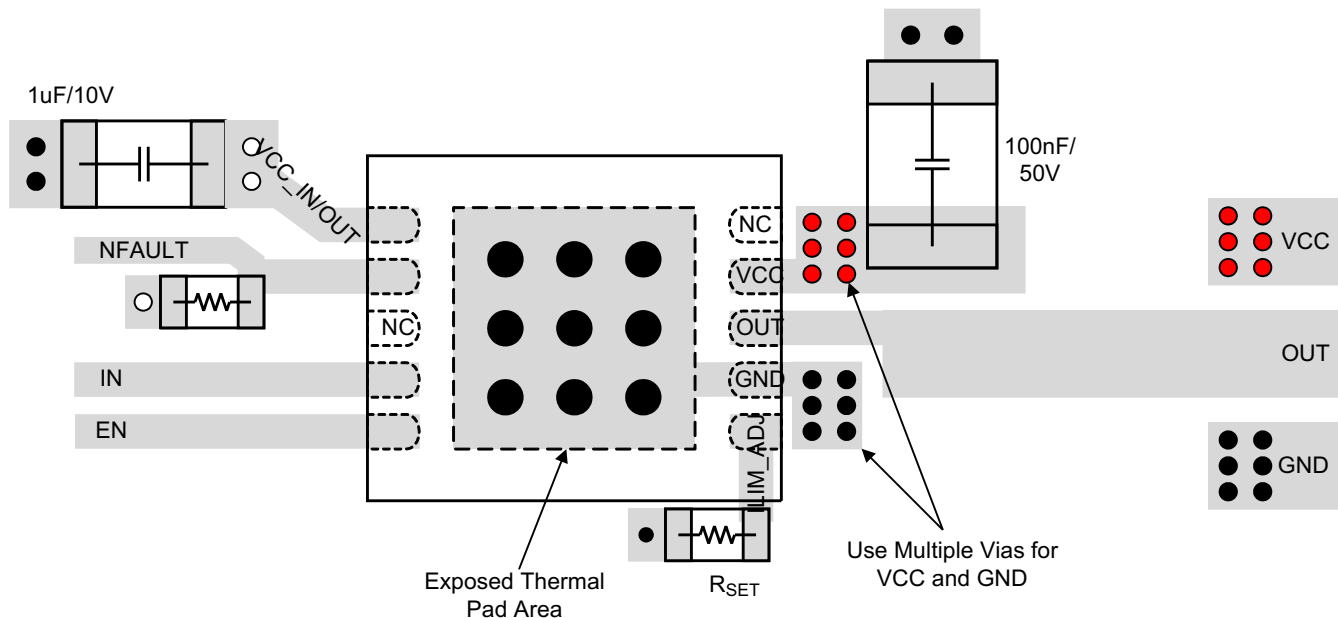

图 11-1. Layout Example
- The optimum placement of the capacitor is closest to the VCC and GND terminals to reduce supply drops during large supply current loads. See 图 11-1 for a PCB layout example.